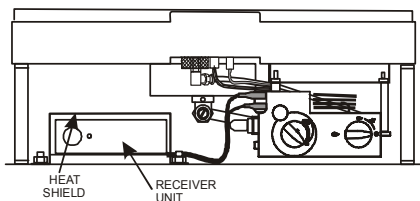

Figure 45
4. Position the receiver under the heat shield as shown in **Figure 45**.